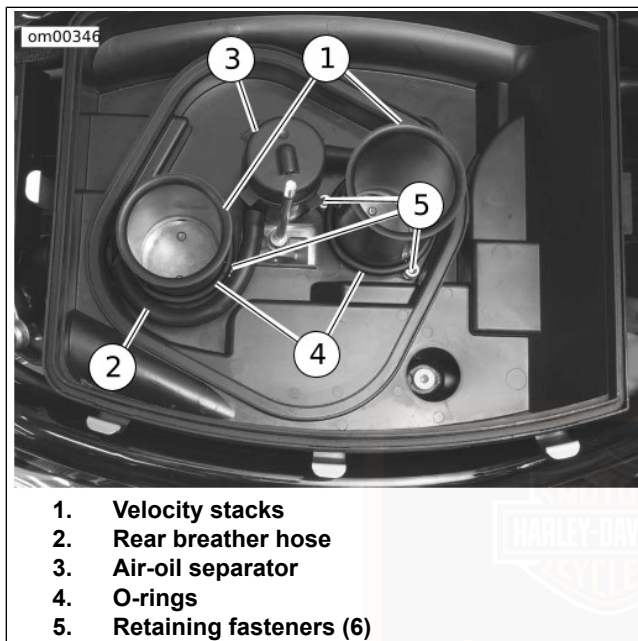

Figure 53. Velocity Stacks
4. See Figure 53. Disconnect rear breather hose (2).
5. Slide the O-ring (4) up each velocity stack (1) body to reveal the three retaining fasteners (5). Unscrew the fasteners and lift off the velocity stacks.
14. See Figure 53. Insert rear breather hose through hole in rear of tray. Pull until hose seals properly.